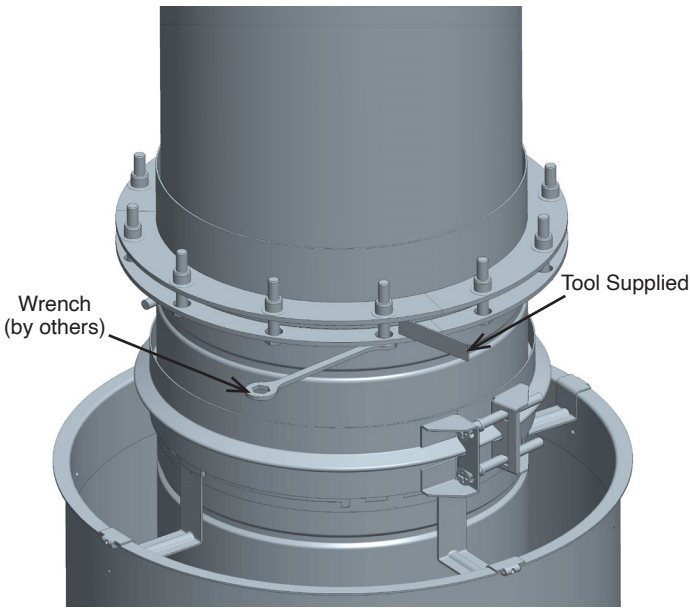

Figure 18 - Step 5 of the Adjustable Length
There is also a supplied tool with this assembly. This tool works as a spacer when tighten the bolts of the containing rings on the graphite gasket. See Figure 18.
5. Tighten all the bolts of the containing ring. For each bolt, use the supplied tool as a guide between the two containing rings. See Figure 18.